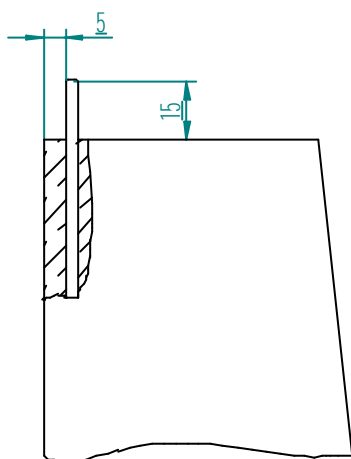

Fig. 4.1.2.1
- Insert and bond hinge pin no. 40610154 with CF at a distance of 5mm (0.20") parallel to the leading edge of the elevator, as shown in figure 4.1.2.1. The hinge pin projects by 15mm (0.59").